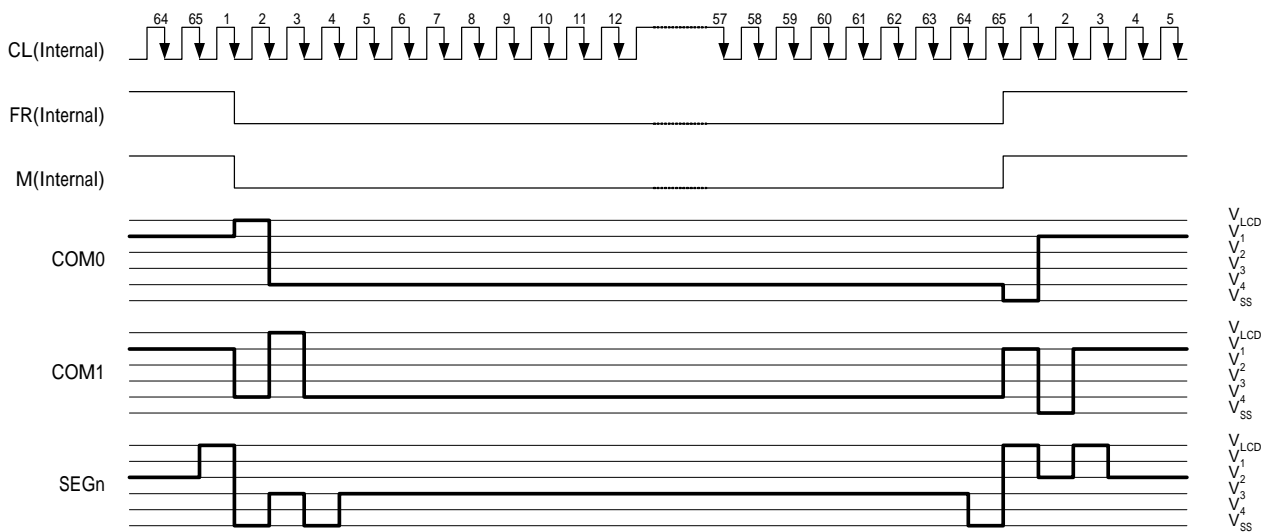

Fig.13 2-frame AC Driving Waveform (Duty Ratio: 1/65)
This circuit generates some signals to be used for displaying LCD. The display clock, CL (internal), generated by oscillation clock, generates the clock for the line counter and the signal for the display data latch. The line address of on-chip RAM is generated in synchronization with the display clock and the display data latch circuit latches the 102-bit display data in synchronization with the display clock. The display data, which is read to the LCD driver, is completely independent of the access to the display data RAM from the microprocessor. The display clock generates an LCD AC signal (M) which enables the LCD driver to make a AC drive waveform, and also generates an internal common timing signal and start signal to the common driver. Driving waveform and internal timing signal are shown in Figure 13.
| V | When V = 0, the horizontal addressing is selected. The data is written into the DDRAM as shown in Fig13. When V = 1, the vertical addressing is selected. The data is written into the DDRAM as shown in Fig12 |